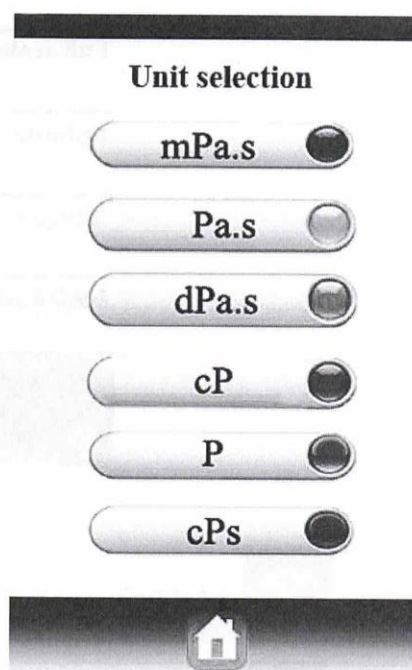

Fig. 4
3. Unit selection: click “》”, Fig. 4 will be displayed.